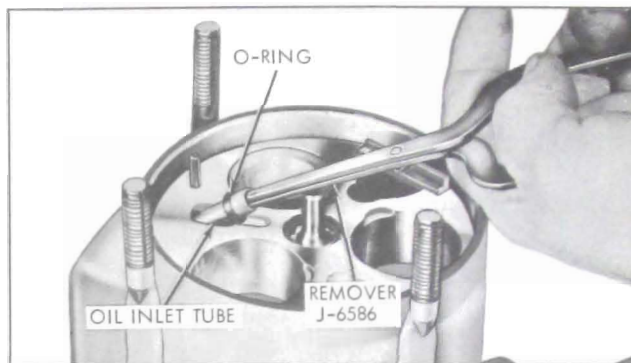

Figure 11-96—Removing Oil Inlet Tube
1. Remove oil inlet tube, using J-6586 Remover. See Figure 11-96. If tube O-ring did not come out with tube, remove it from cylinder with small wire.